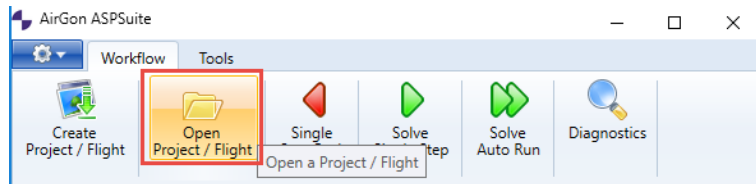

Figure 26 - Open Project Button
1. Open ASPSuite and select *Open Project/ Flight* (Figure 26).